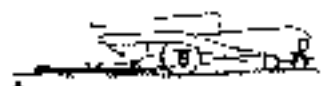

FIGURE B-11
The screed plate bottom (AB) is automatically tilted up, Figure B-11.